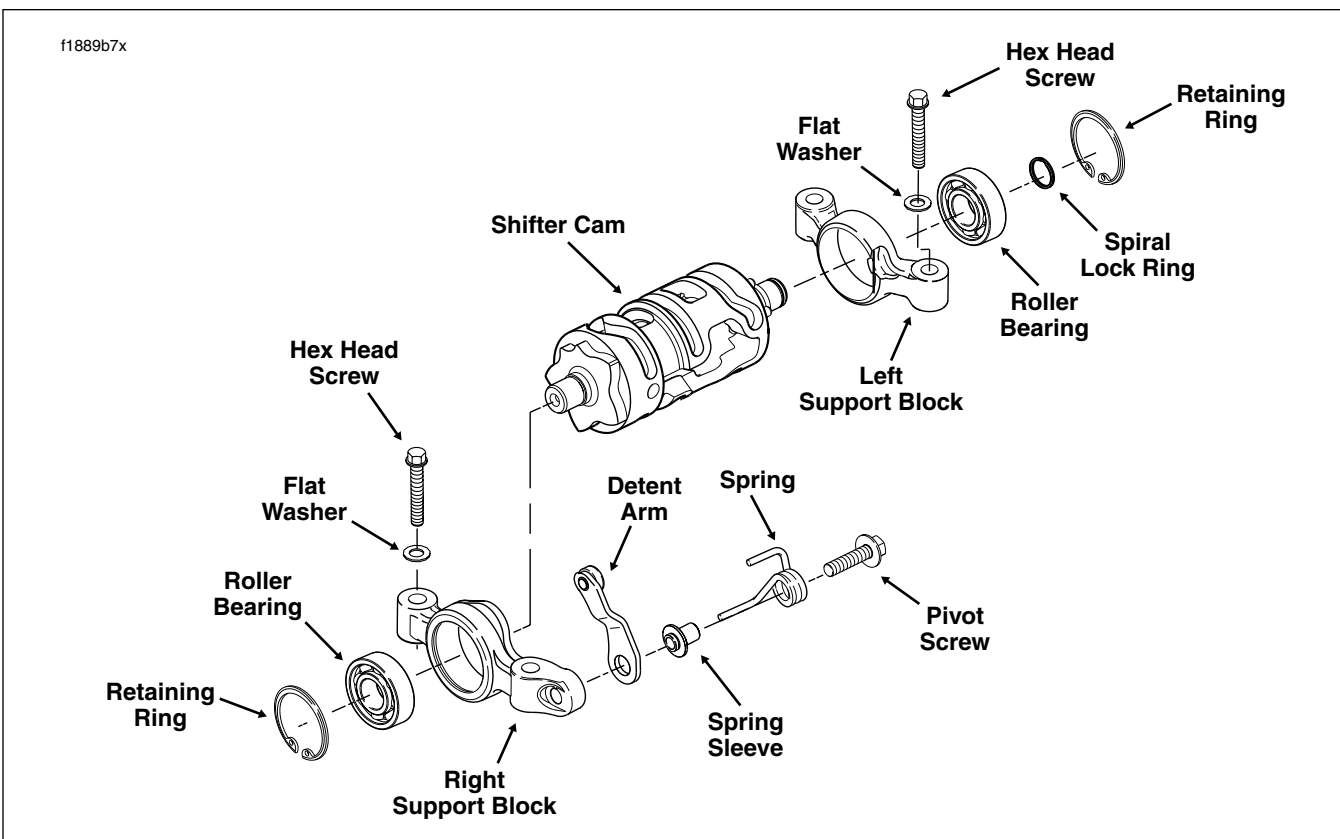

Figure 7-3. Shifter Cam Assembly
6. See Figure 7-3. Remove the four hex head screws (with flat washers) to free the right and left shifter cam support blocks. Raise shifter pawl and lift shifter cam assembly from dowels on deck of transmission case.